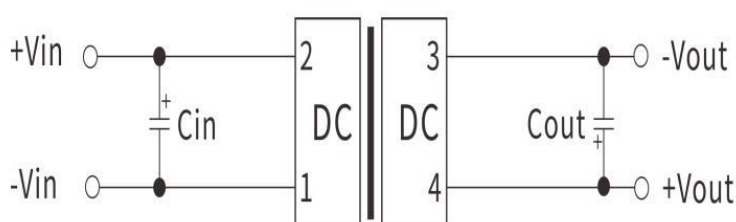

Figure 1
1. If it is required to further reduce the input and output ripple, a capacitor filtering network can be connected to the input and output ends, the applied circuit as showed on figure 1. However, it should be careful to select a suitable filter capacitor. If the capacitance is too large, it may cause start-up problems. For each output, under the conditions of ensuring safe and reliable operation
2. One recommended circuit: For applications where ripple and noise requirements are normal, a filter capacitor can be connected in parallel at the input and output ends. The external circuit is shown in the following figure1 with the recommended value details of the filter capacitor. Output load requirements: Try to avoid no-load use. When the actual power consumption of the load is less than 10% of the rated output power of the module or there is no-load phenomenon, it is recommended that a dummy load be connected to the output end. The dummy load (resistance) can be calculated by 5~10% of the rated power of the module, resistance value = $U_{out} / (1W * 10\%)$.